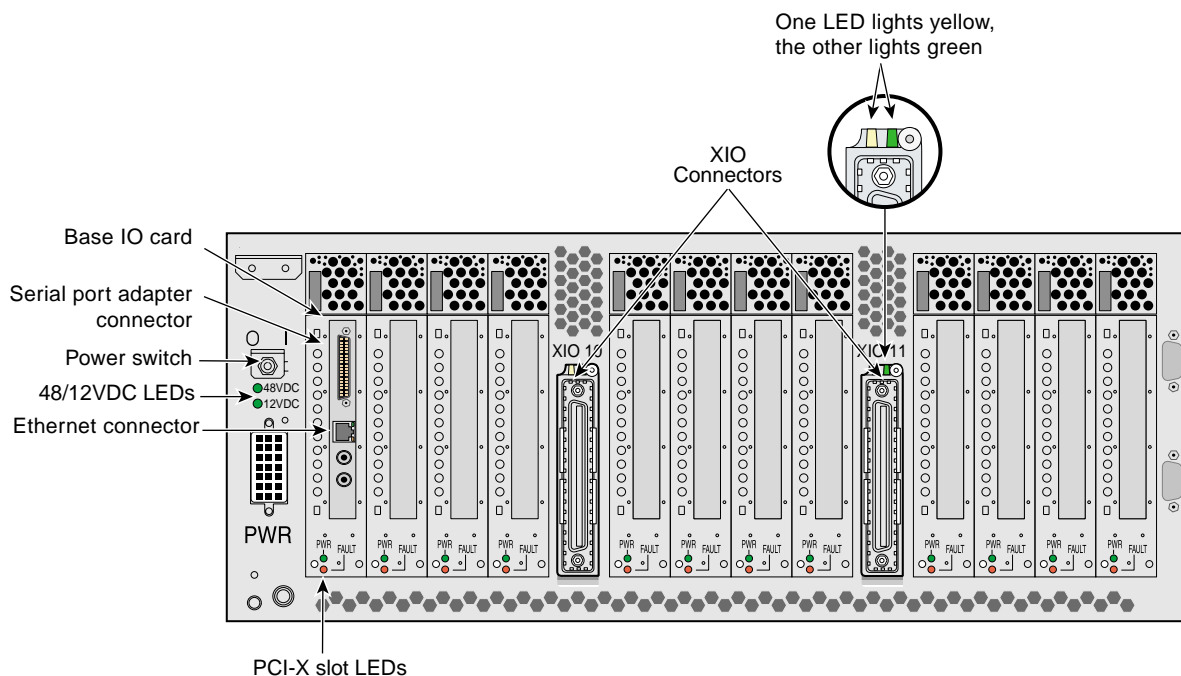

Figure 6-4 Rear Panel of IX-brick
Also important to the IX-brick architecture is the base I/O PCI card. This card contains logic that controls the DVD-ROM and internal system disk drives, and it provides the following connectors (see Figure 6-4):
The IX-brick has the following rear panel components (see Figure 6-4):
- **PCI-X slots.** These slots seat the PCI cards. See “Adding or Replacing a PCI or PCI-X Card” on page 126. The card slots are numbered bus 1 through bus 6. Each bus has two slots, labeled 1 and 2, as shown in Figure 6-4.